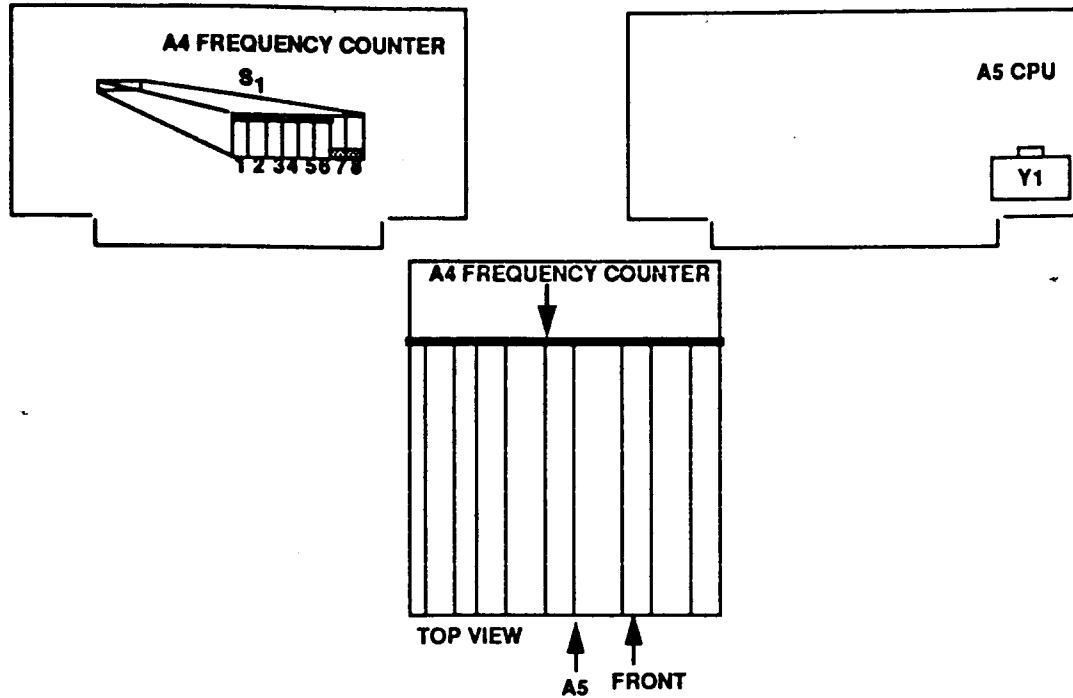

Figure 5. Time base accuracy - adjustment locations.
(2) Remove top cover and set A4S1 (fig. 5) switch positions 7 and 8 to open (down) and press **LCL INIT** key.
(3) Remove cover screw from A5 CPU Y1 (fig. 5) and adjust internal slotted screw for a TI indication of 10000.00 kHz (± 1 count) (R).
(4) Reset A4 FREQUENCY COUNTER S1 (fig. 5) switch positions 7 and 8 to the closed (up) position.
(5) Replace A5 CPU Y1 (fig. 5) cover screw and TI top cover.